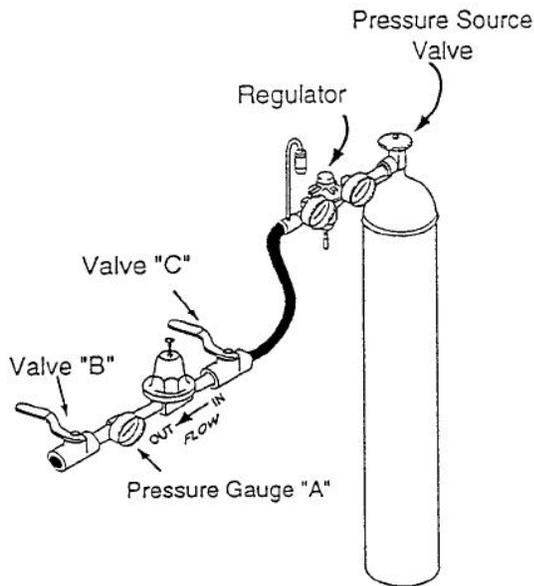

Figure 1 - Pressure Building Regulator
1. Connect the pressure building regulator to a nitrogen pressure source as shown in the Figure 1.
1. Connect the inlet of the economizer regulator to a pressure source as shown in the Figure 1.